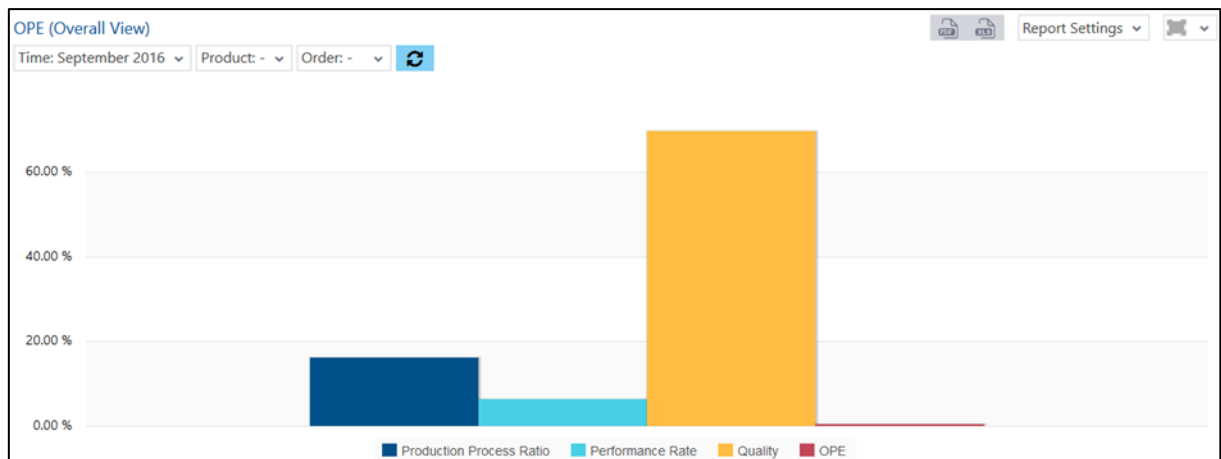

Fig. 138: OPE report as a column chart
- OPE report as a column chart (fig. 138):